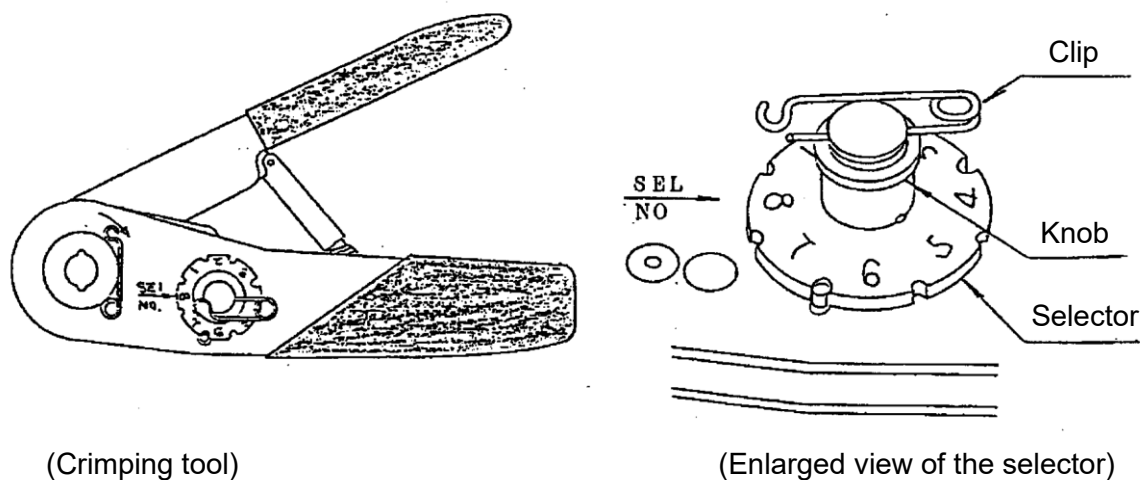

Figure 7. Crimping Tool
- (1) Inspection of crimping tool
- (a) Set the selector number of the crimping tool of M22520/2-01 (See Figure 7) to “8” and tighten the handle fully. To set the selector number, remove the clip, and pull up and rotate the knob.